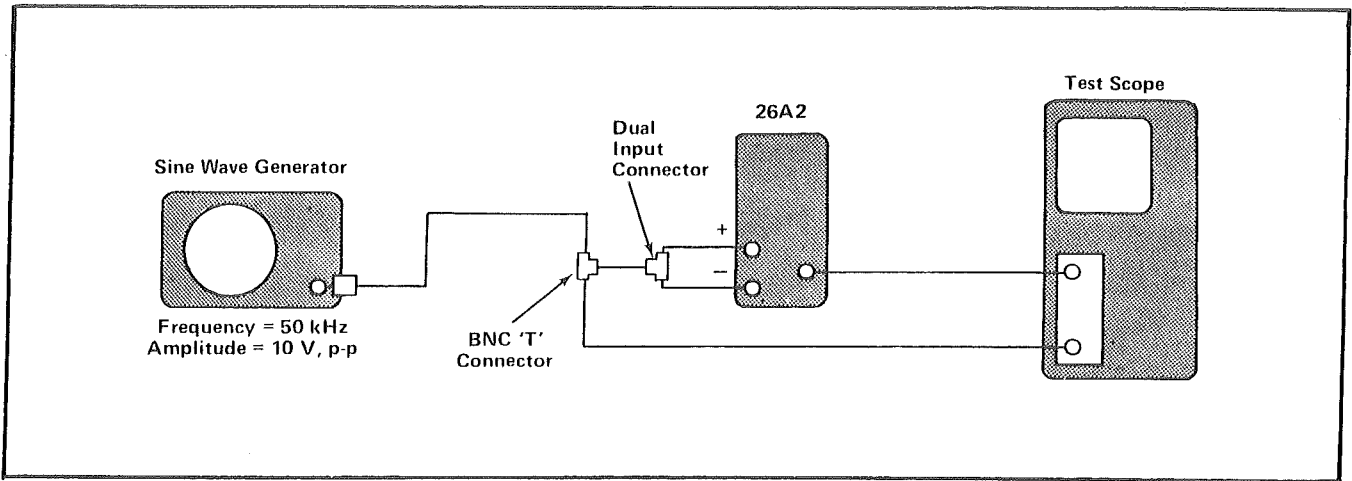

Fig. 5-9. Equipment setup for step 11.
a. Set up the equipment as illustrated in Fig. 5-9.